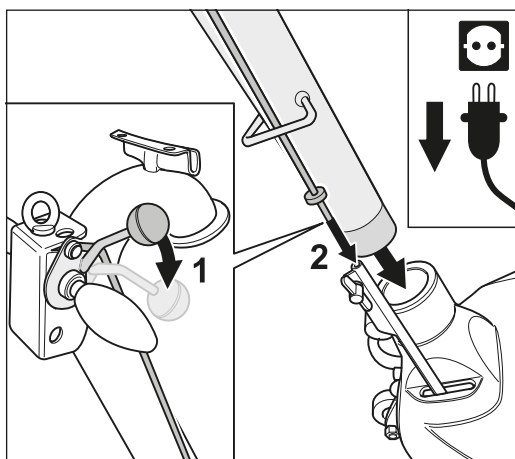

Fig. 59 When inserting the guide tube, make sure that the upper rod of the lowering mechanism feeds in correctly!
- 1 Press the lowering lever at the handle downwards (fig. 59, 1).
- 2 Insert the guide tube into the opening in the machine housing and at the same time insert the upper rod into the lower rod (fig. 59, 2).